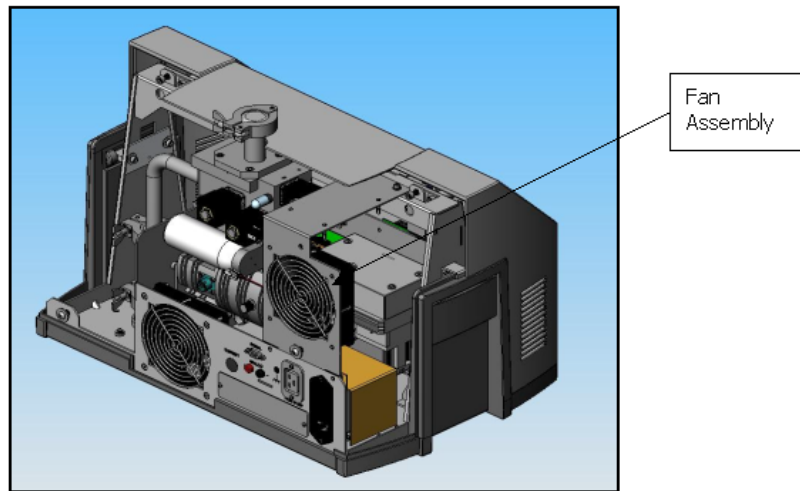

Figure 2: Fan Assembly
5. Disconnect the fan cable and remove the fan assembly by unfastening two wing nuts and one M4 socket head cap screw (Figure 2: Fan Assembly).
36. Attach the fan assembly (Figure 2: Fan Assembly) by fastening two wing nuts and one M4 socket head cap screw. Then connect the fan cable to the unit.